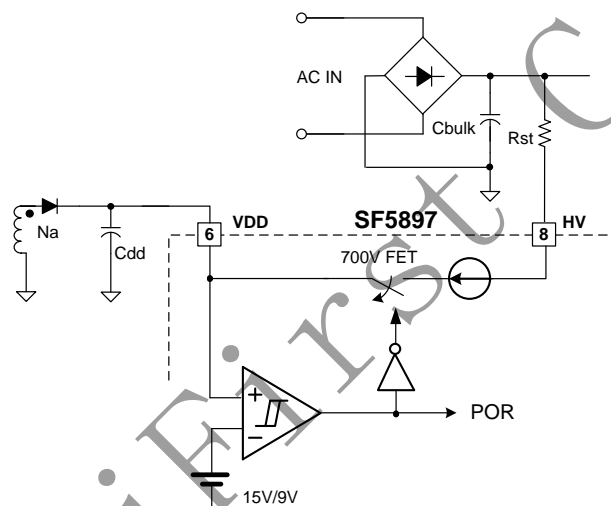

Fig.1
SF5897 Integrates proprietary HV-mW™ technology to achieve ultra low standby power. The core of HV-mW™ technology is related a built-in 700V startup circuit and standby control. Fig.1 shows the high voltage (HV) startup circuit for SF5897 applications. The HV pin is connected to the line input or bulk capacitor through a resistor. During startup, the internal startup circuit is enabled and a HV current source charges the VDD hold up capacitor Cdd through Rst. When VDD reaches UVLO turn-on voltage of 15V(typical), SF5897 begins switching and the IC current consumed increased to 2mA (typical). The hold-up capacitor Cdd continues to supply VDD before the energy can be delivered from auxiliary winding Na. During this process, VDD must not drop below UVLO turn-off voltage (typical 9V).